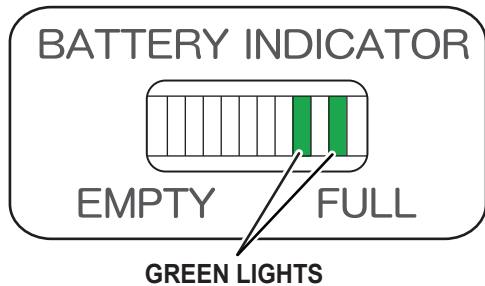

Figure 15. Table Self Diagnosis
- **If two green battery indicators light up** (Figure 15) the table is receiving a signal from the pendant control.